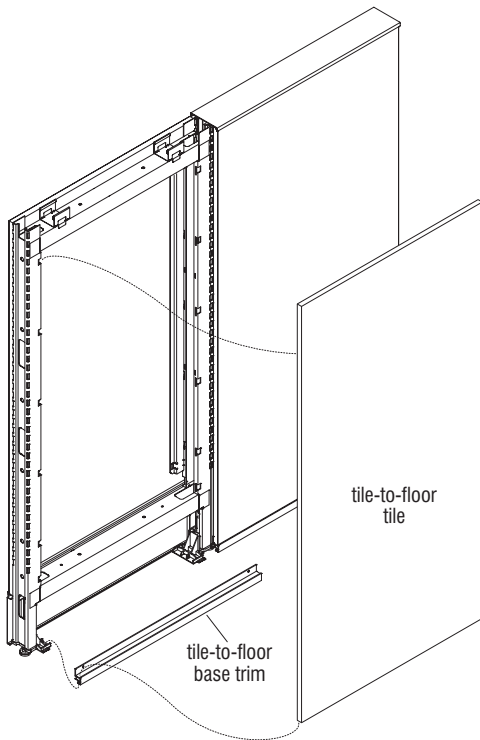

Figure 4 - Tile to Floor Tile Installation
2. Install a tile-to-floor base trim (extruded aluminum) to the bottom of the panel frame by positioning the bottom notch of the base trim onto the bumps of each base raceway hinge clip, then rotate vertically into place until the two horizontal flanges snap onto the flange of both glide housings (Detail B & Figure 4).
3. Position the tile-to-floor tile such that the “open tabs” at the top of the vertical tile stiffeners are at the top of the panel (Figure 4).
4. Hold the tile up, then center and nest the bottom of the tile into the channel of the tile-to-floor base trim. Push the top of the tile against the frame and lift such that the tabs of the stiffeners enter the P-slots. Push in and down gently to allow tile bottom to nest down into the bottom channel of the tile-to-floor base trim (Figure 4).